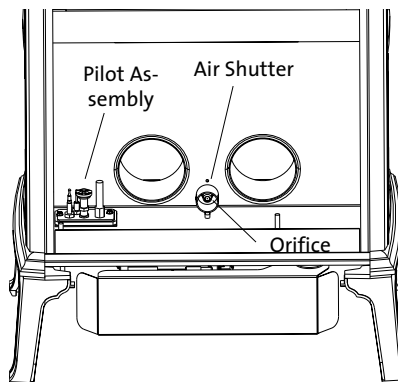

Figure 19. Burner orifice and pilot assembly locations.
8. Change the Main Burner Orifice. Fig. 19. Using a 1/2" (13 mm) wrench or deep-well socket, remove the burner orifice and replace with the appropriate orifice supplied in the kit.